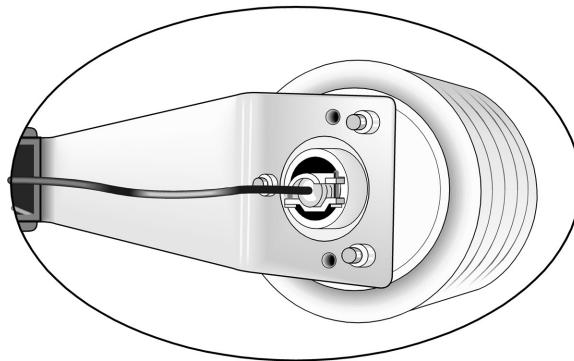

FIGURE 7-2. HMP60 and 41303-5A Radiation Shield
When used in the field, the HMP60 must be housed inside a solar radiation shield. Typically, the 41303-5A or RAD06 6-plate solar radiation shield is used. The HMP60 is held within the 41303-5A by a mounting clamp (FIGURE 7-2 (p. 9)).
3. Tighten the screws on the collar until it firmly grips the probe body (see FIGURE 7-2 (p. 9)).